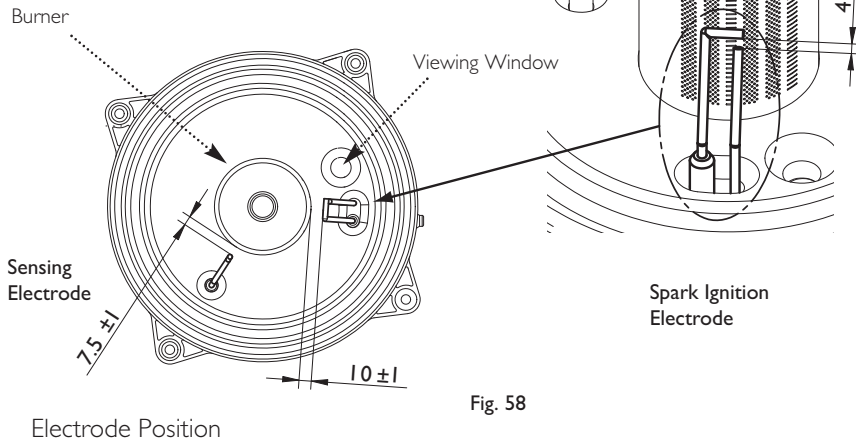

Fig. 58
11. Inspect the burner, electrodes (Fig. 58) and insulation, cleaning or replacing if necessary. Clean any dirt or dust from the air box.